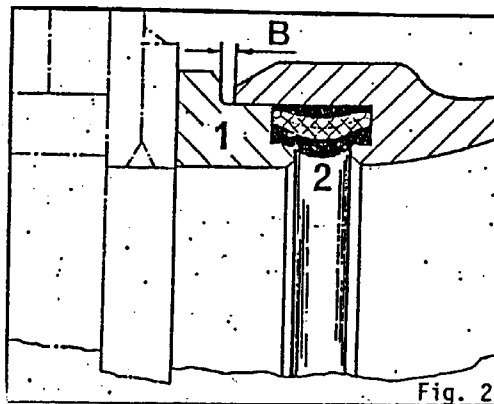

Fig. 2
- 2b. Take rubber-metal-sealing ring 15, the four disc springs 14, and the steel ring 13, out of the rock (Fig. 2), total 6 pieces.
3. Distance "B" (Fig. 2) depends on the state of the housing lining and the cutting ring.
B (Fig. 2) = approx. 4 mm
In order to ensure a safe guidance of the cutting ring in the rock and sufficient tension of the spring, distance "B" (Fig. 2) must not be longer than 8 mm.